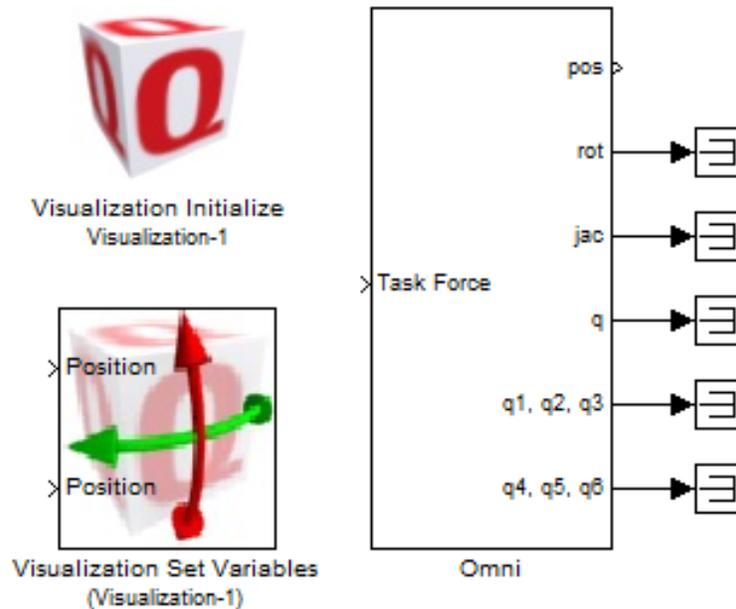

Figure 10.4: Full Omni block including joints 4, 5 and 6
3. From your **PreLab_Haptic_Gravity_Well.mdl**, drag and drop the **Visualization Initialize** and **Visualization Set Variables** blocks into this new model. Your model should look resemble Figure 10.4.